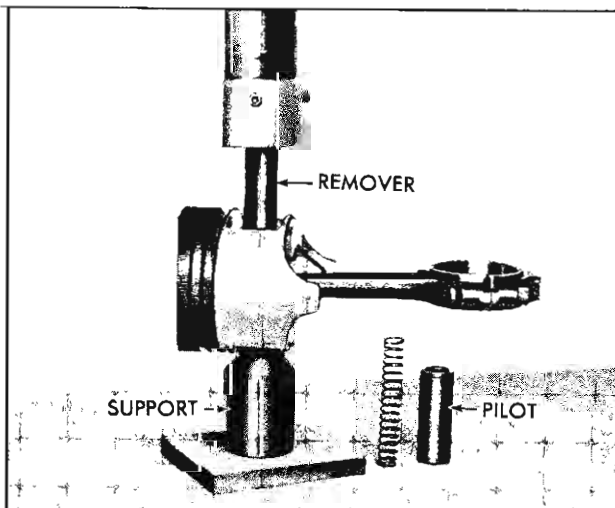

Fig. 168—Removing Piston Pin
2. Install piston and connecting rod assembly on support and place assembly in on arbor press as shown in Figure 168. Press pin out of connecting rod.